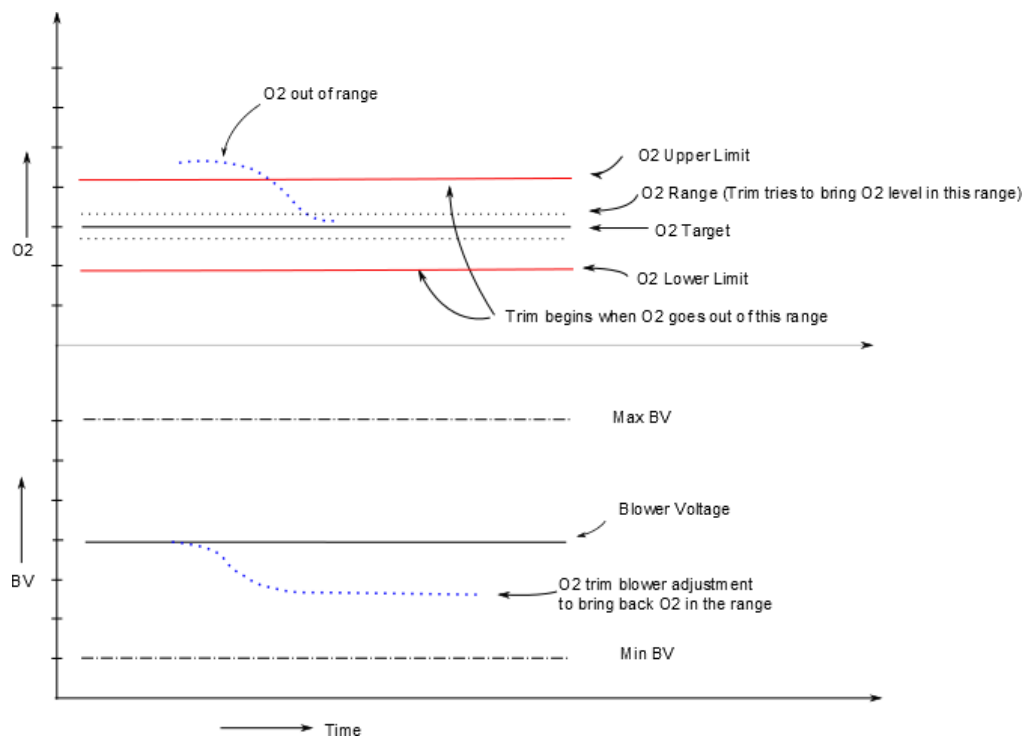

Figure 9-2: O₂ Trim Logic
Figure 9-2 graphically shows the functional logic of the O₂ Trim system and how the blower voltage (BV), O₂ Limits, and air/fuel ratio interact during an O₂ Trim operation. The limits are fixed presets within the controller. The target range is adjustable within these limits to allow the user to select the optimal air/fuel ratio for a particular Water Heater or application.
Figure 9-2 shows how the controller would react to an O₂% reading above the upper limit. It will reduce the blower voltage (BV) until the O₂% reading is within the Target Range, provided the BV adjustments are within the limits for that fire rate. The control will then store this as the new BV calibration setting until changed manually or by another O₂ Trim function cycle.